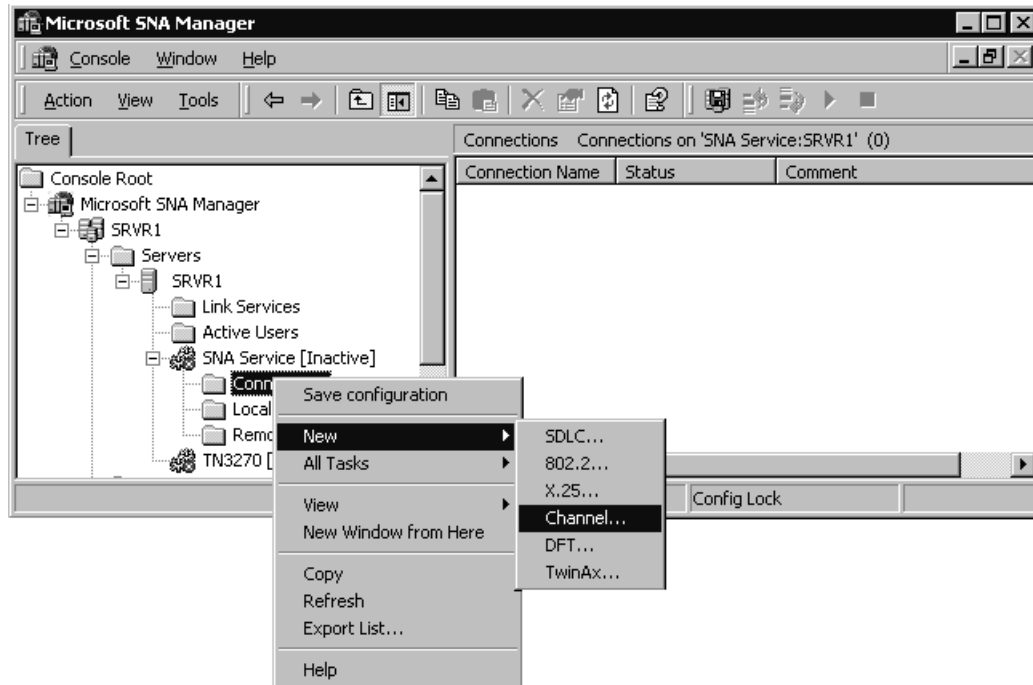

Figure 8-13. Inserting a New Channel Connection
- Using your right mouse button to menu select **New** and **Channel** as shown in Figure 8-13.